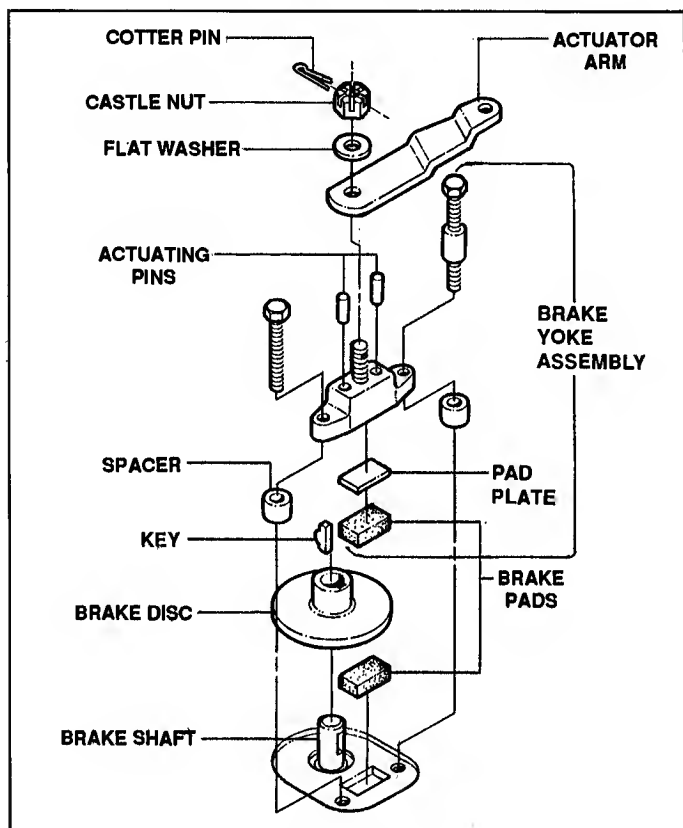

FIGURE 10.4
- (a) Using a feeler gauge, check the gap between brake disc and pads. Gap must be adjusted to within .010 to .020 minimum. Tighten or loosen castle nut to adjust clearance. See Figure 10.4.
5. Remove cotter pin, castle nut, flat washer and actuator arm from Yoke Assembly (Refer to Figure 10.4).